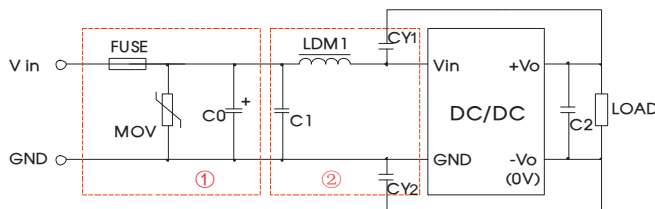

Fig. 3
Note: Part ① in the Fig. 3 is for EMS test, part ② is for EMI filtering; parts ① and ② can be added based on actual requirement.